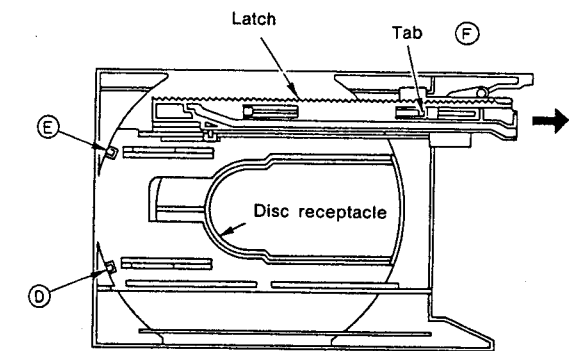

Fig. 4
(3) Replacement of the disc holder (Fig. 4)
With the tray removed, remove tabs ① and ② of the disc receptacle of Fig. 4, then lift up and off.
(4) Replacement of the latches (Fig. 4)
Set the latches into the condition of Fig. 4, lift the latch tab (F) up about 1 mm with a flat-bladed screwdriver and remove the rack in the direction of the arrow.